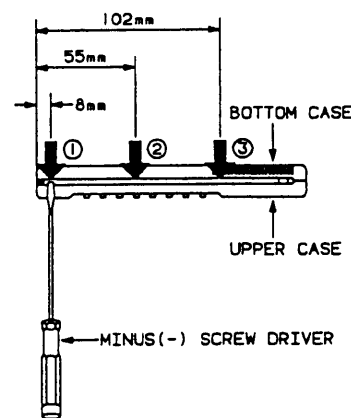

Fig. 12
2. Remove the bottom case from the upper case. To remove it, insert minus (-) screw driver into the slot as shown in the Fig. 12. Positions of minus (-) screw driver to be inserted are also indicated in the Fig. 12.